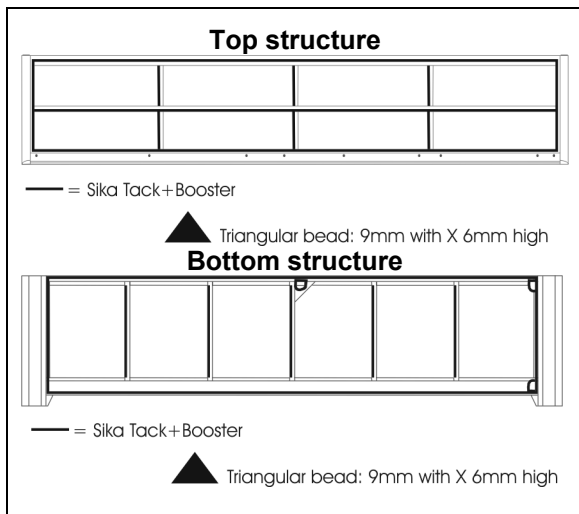
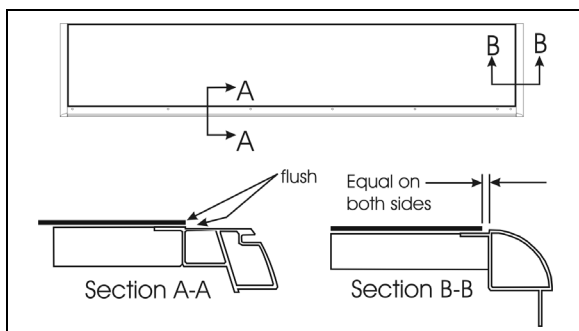
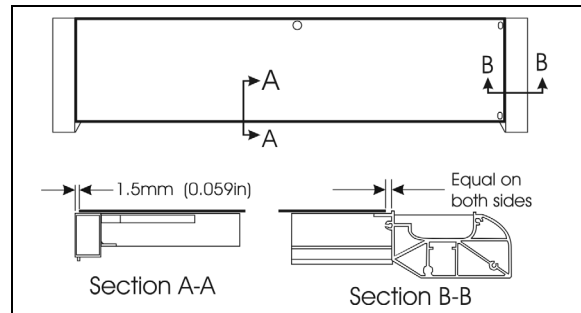

FIGURE 47 : TOP AND BOTTOM PANEL INSTALLATION - SIKA TACK+BOOSTER APPLICATION
FIGURE 48 : TOP PANEL INSTALLATION
FIGURE 49 : BOTTOM PANEL INSTALLATION
4. Apply Sika Tack+Booster (triangular bead: 9mm width X 6mm high) has shown in FIGURE 47 and glue panel in place as shown in figure 48 & figure 49 ;